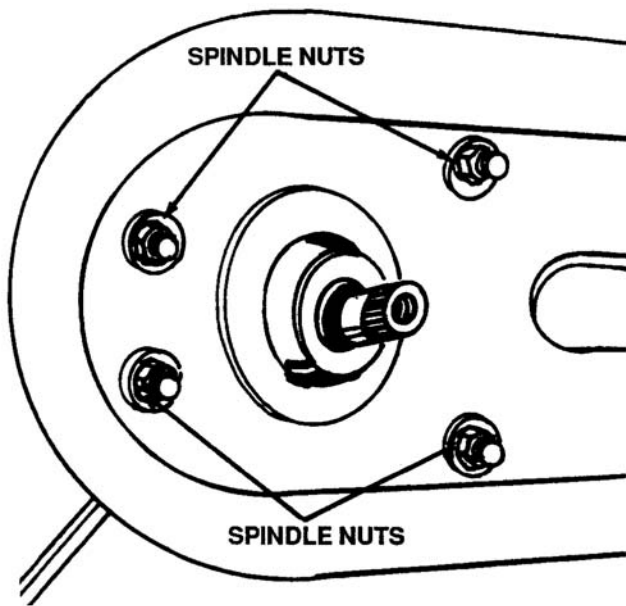

Figure 8-19. Location of Spindle Nuts
1. Loosen four spindle nuts on the bottom of the cutting deck. See Figure 8-19.